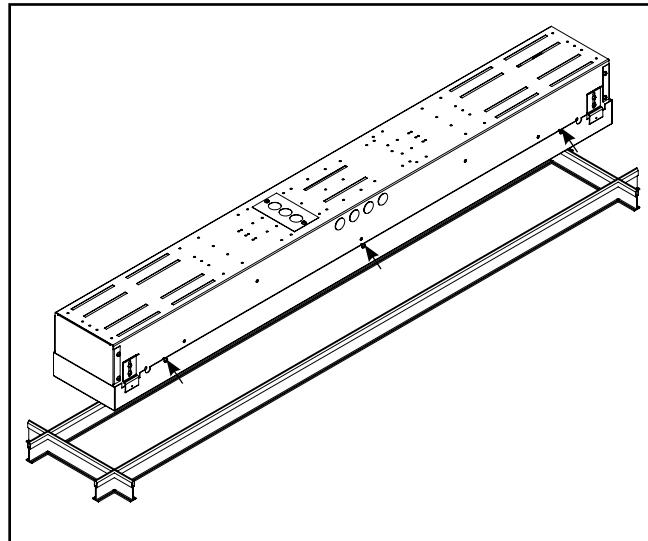

Figure 5.
1. To service fixture remove from T-grid to access LED Boards. Remove door cover from fixture, 12 screws 3 per side (Figure 5)